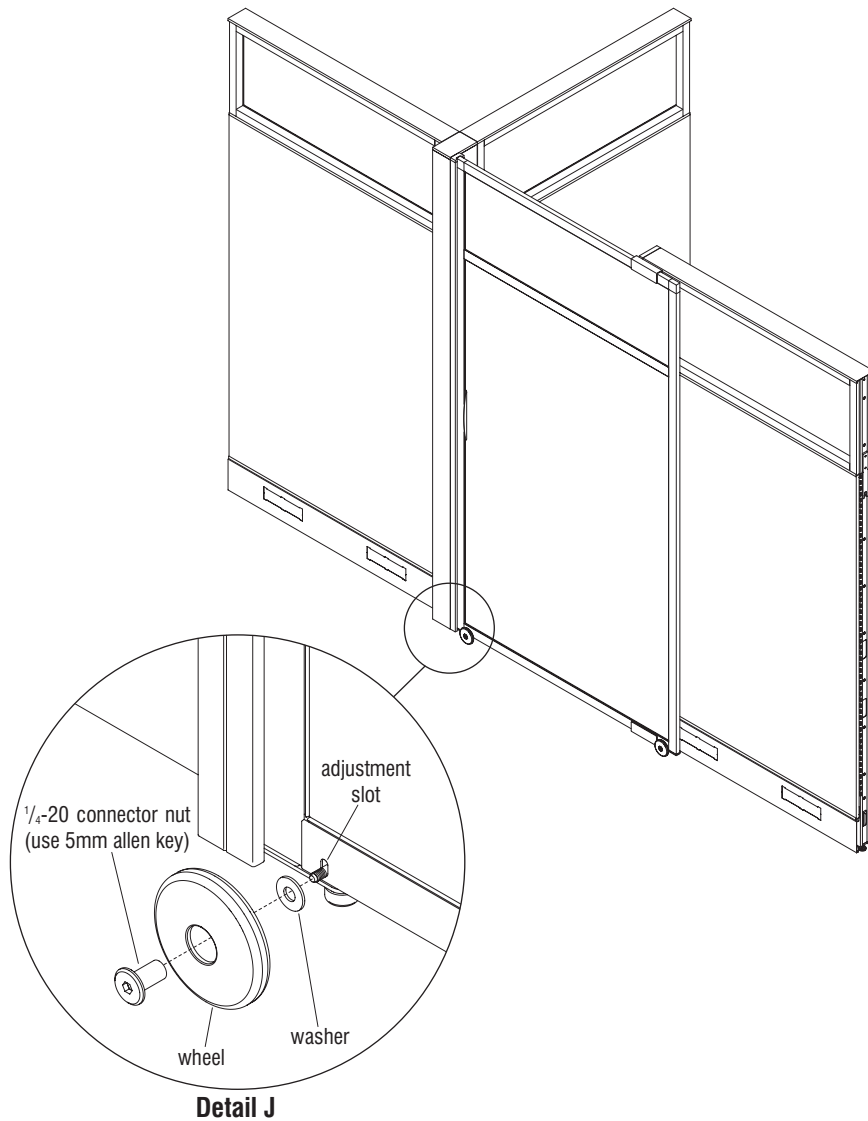

Figure 16
6. Check "plumb" of the rolling door to the jamb rail by rolling the door closed, then confirm that the door contacts the jamb rail in a square and even manner. If necessary, adjust the door angle by loosening (**DO NOT REMOVE**) one or both wheels and moving the wheel(s) up or down in the adjustment slot, then re-tightening in the new position. Wheel assembly is shown in detail below for reference (Figure 16, Detail J).